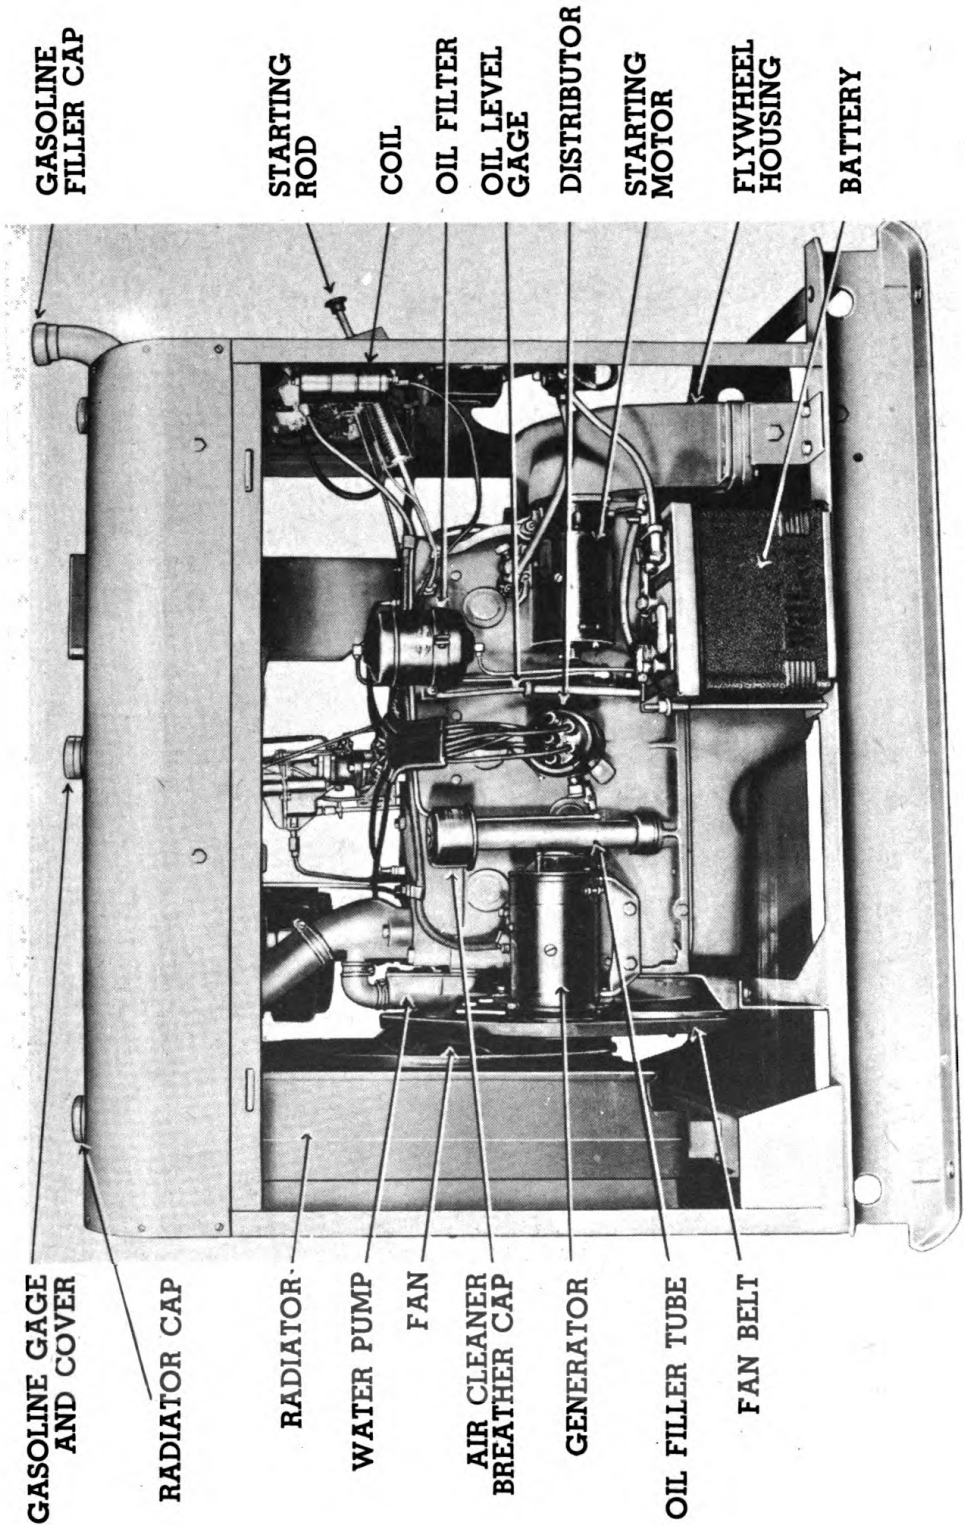

Figure 81—Distributor Side View of Engine
Remove wires and the attaching cap screws and pull starter out of flywheel housing. (Figure 81.)
bolts that attach the generator to the generator mounting bracket. (Figure 81.)
Remove the spark plug cables from the spark plugs. Remove the spark plugs. Remove the nut from the cylinder head stud that attaches the cable tube and mounting bracket and remove the bracket from the stud. (Figure 81.) Release the distributor cap clamp springs and remove the distributor cap and spark plug cables. Disconnect the primary wire and remove the cap screw that holds the distributor lock plate to the cylinder block and pull the distributor assembly out of the block.
80. REMOVE WATER PUMP (Figure 81) AND WATER DISTRIBUTING TUBE.
84. REMOVE OIL FILTER, BREATHER PIPE AND AIR CLEANER—(Figure 81.)
92. REMOVE CAMSHAFT BEARINGS—(Figure 81.)